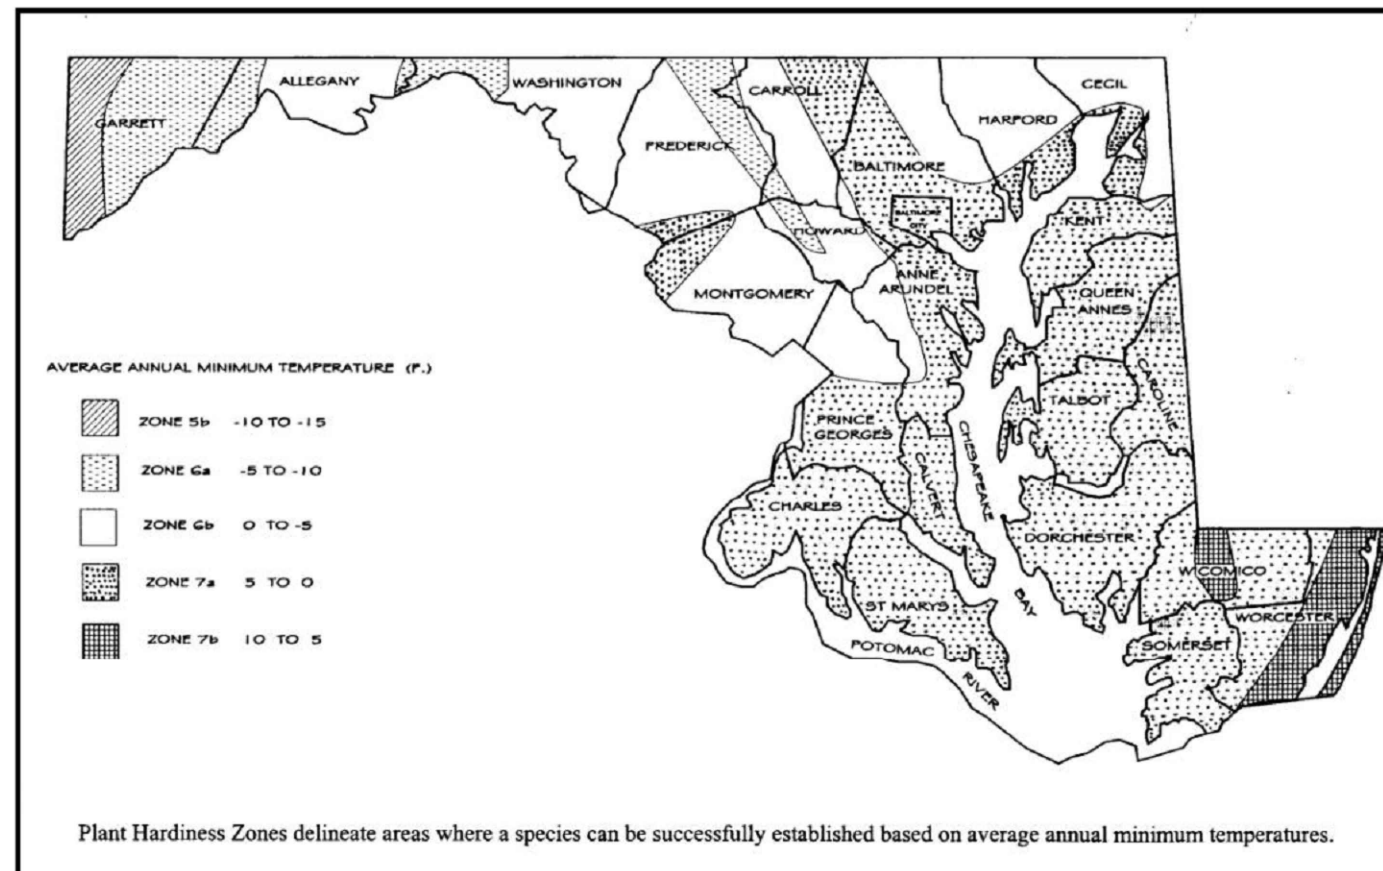

Figure B.3. U.S.D.A. Plant Hardiness Zones
- 1. Select one or more of the species or seed mixtures listed in Table B.1 for the appropriate Plant Hardiness Zone (from Figure B.3) and enter them in the Temporary Seeding Summary below along with application rates, seeding dates and seeding depths.
a. Select one or more of the species or mixtures listed in Table B.3 for the appropriate Plant Hardiness Zone (from Figure B.3) and based on the site condition or purpose found on Table B.2.